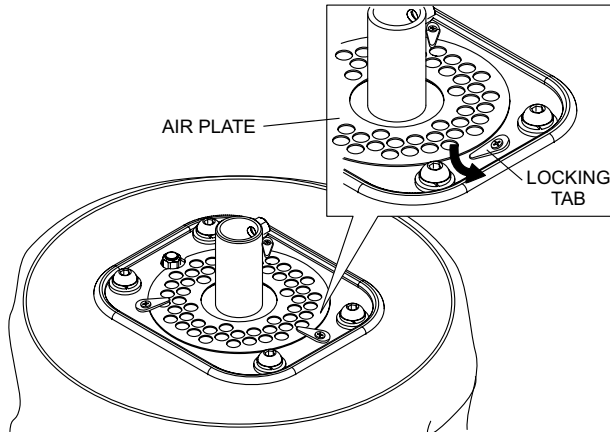

Figure 30. Accessing Filter
2. Turn the balloon/lamp assembly upsidedown to access the filter. See Figure 30.
3. Turn the three locking tabs outwards to release the air plate. See Figure 30.